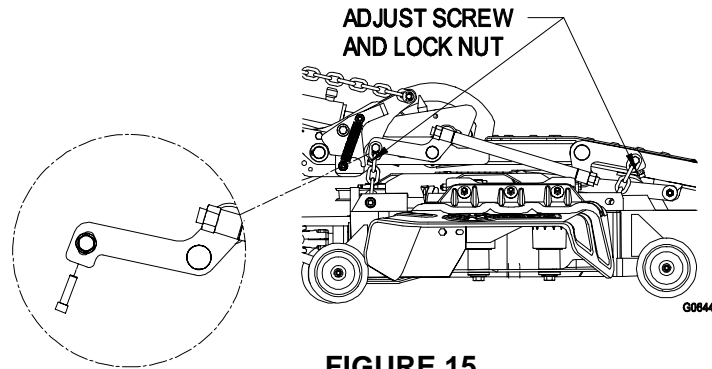

**FIGURE 14**
- e) Lower the deck to the 4" cut height position and remove ignition key. Orient the blades longitudinally with respect to the machine. Stand a wooden block approximately 5" long next to the front blade tip of the center blade; mark the location of the blade tip on the block. Remove the block and measure height on the block, it should be 4". Repeat this process for the rear blade tip of both the left and right blades, those should measure 4-1/4" to give the recommended 1/4" positive rake. See Figure 14.